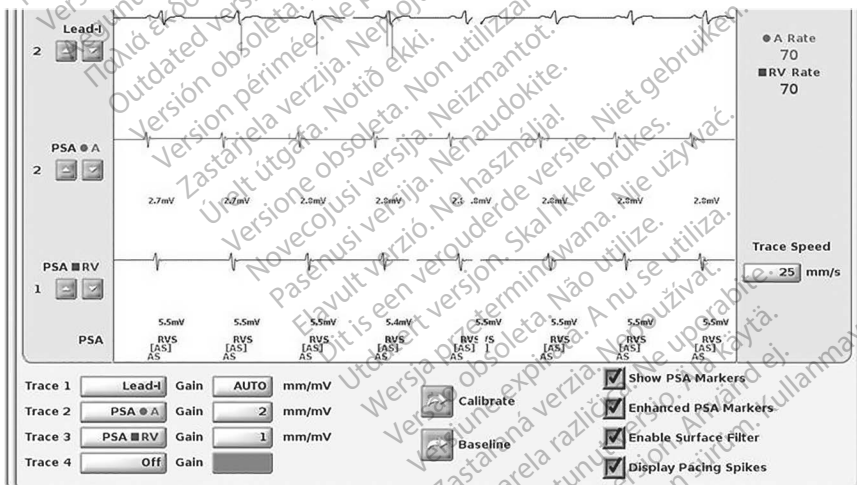

Figure 8. Lead Traces panel example (lower portion, magnified)
- For each displayed trace, Gain buttons  provide the ability to increase or decrease the gain for each trace. The amount of gain displays to the left of the Gain buttons. See Figure 8 on page 17 and see callout [1] in Figure 6 on page 16.
- The Magnify Traces button  enlarges the lead trace area to fill the display window and provides additional information at the bottom of the traces display. See Figure 8.